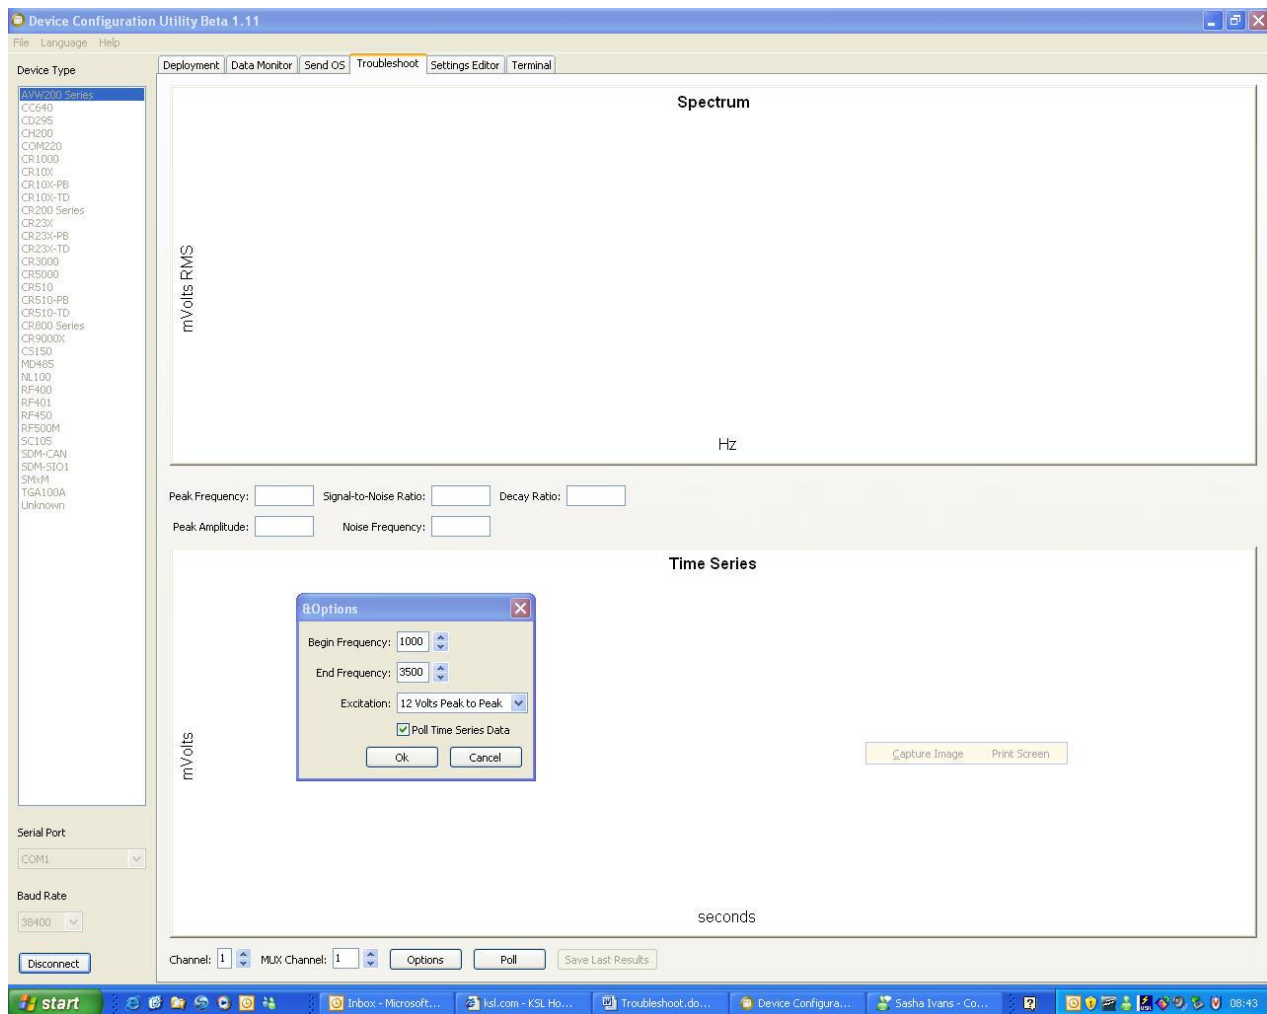

Figure 5.5-2. Options Tab of the Troubleshoot Tool
3. Click the Options tab at the bottom of the Troubleshoot screen to set the begin and end frequencies and the excitation voltage you wish to test for a given sensor (Figure 5.5-2). You may also choose to poll (default) or not to poll the time series data from this Options window by checking or unchecking the poll time series box.